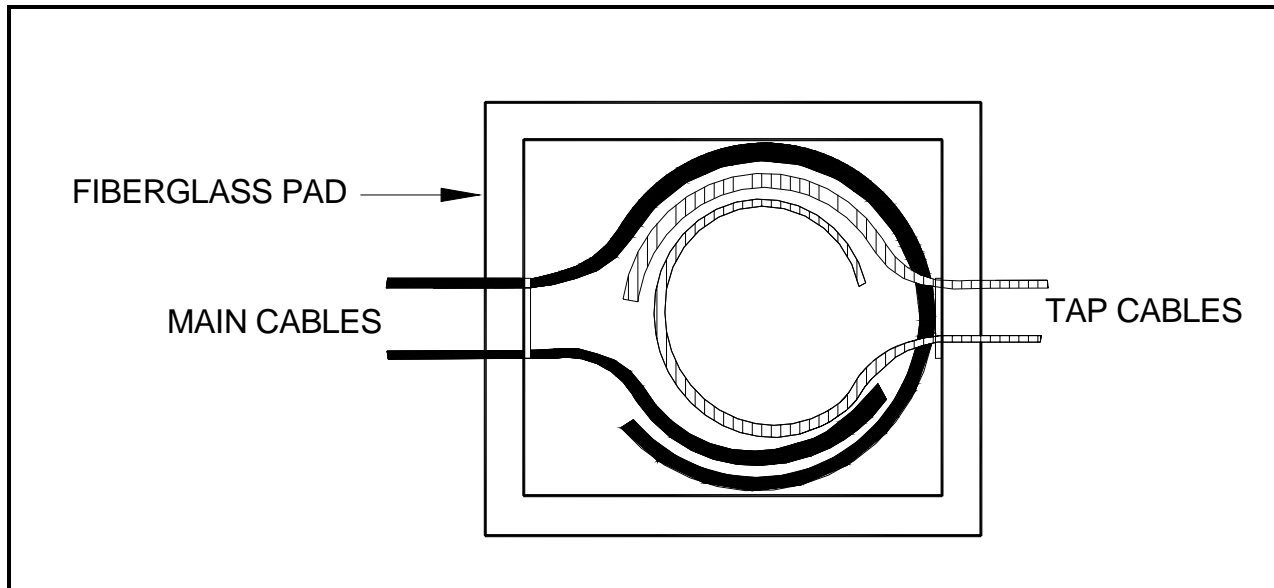

Figure 4 - Typical Cable Racking Within Pad
- 2.6 Allow as much slack cable as possible in the fiberglass pad to facilitate placement and removal of elbows as shown in Figure 4.